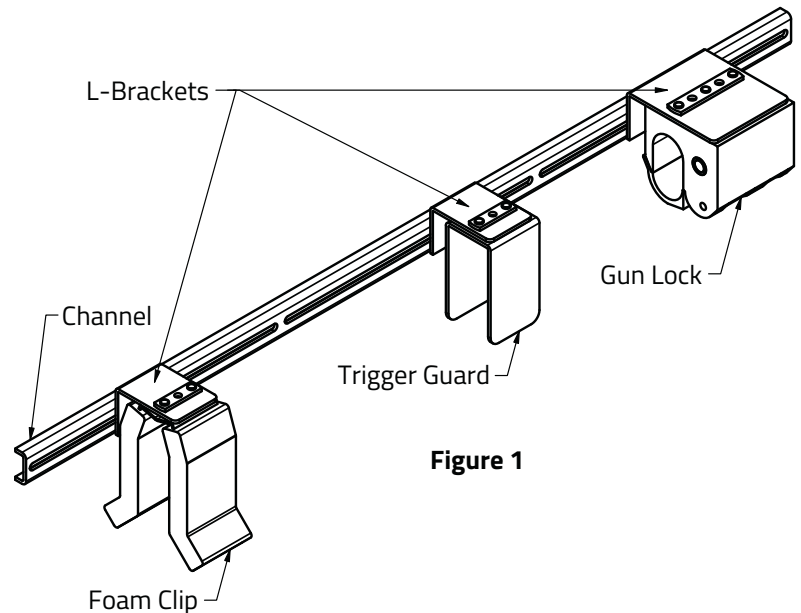

Figure 1
3. Tufloc gun racks are assembled with L-Brackets. (Figure 1) Depending upon the mounting location inside the trunk, it may be necessary to rotate the gun 90-degrees. (Figure 2) **Note: When mounted, the hinge of the gun lock should always face the floor.**